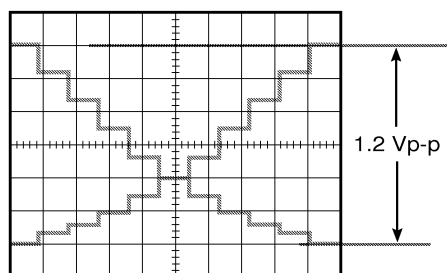

Fig. 4-5
- Adjust R701 so that signal level at E201 becomes clip at 1.2 Vp-p as shown in Fig. 4-5.